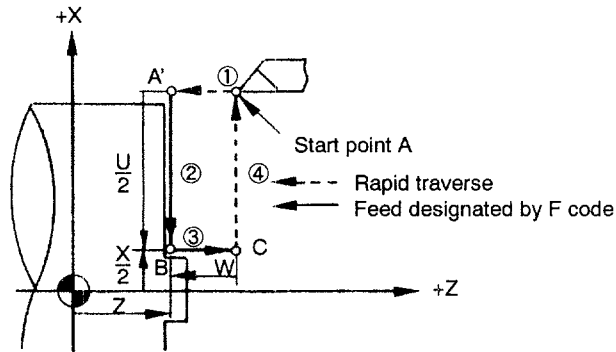

Fig. 4.14 Straight Facing Cycle
With the commands of “G94 X(U) ··· Z(W) ··· F(E) ··· ;”, straight facing cycle of ① to ④ as shown in Fig. 4.14 is executed.